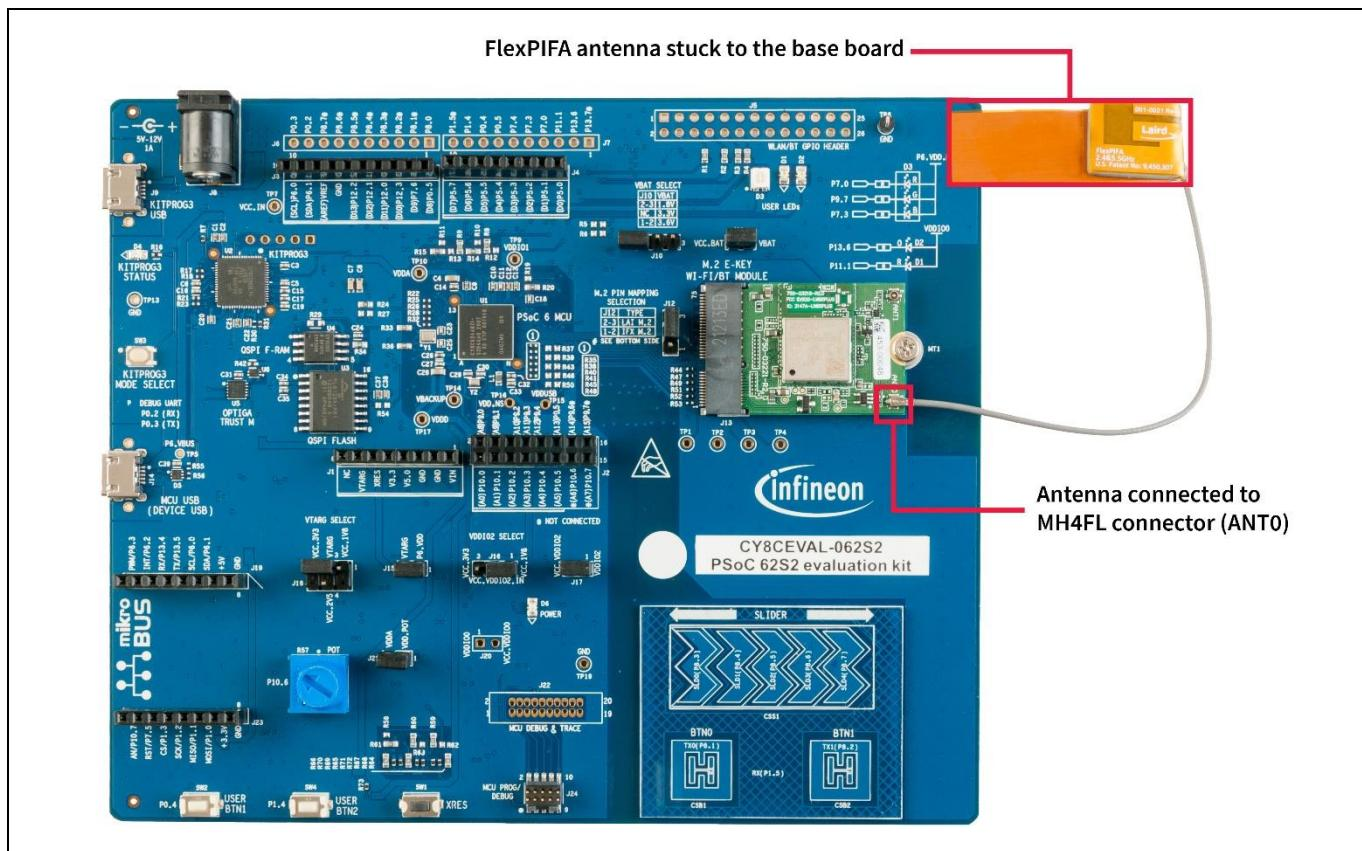

Figure 9 PSoC™ 62S2 evaluation board + Sterling-LWB5+ M.2 module from Laird Connectivity:
2. The FlexPIFA antenna from Laird Connectivity comes with a 3M adhesive. You can either stick the antenna to the base board as shown in **Figure 9** or leave the antenna hanging freely.